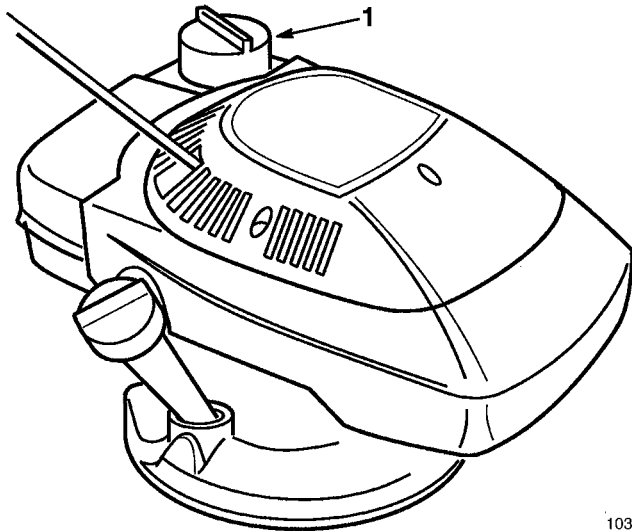

Figure 7
1. Clean around fuel cap and remove cap from tank (Fig. 7).